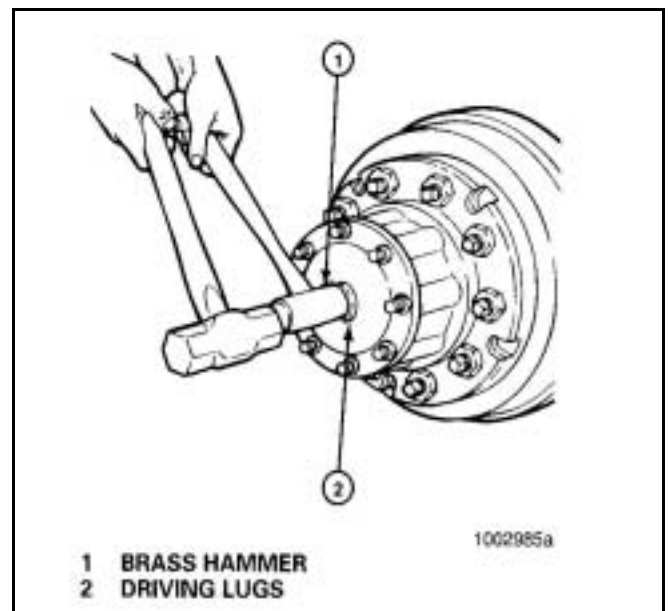

Figure 4
1. Hold a 1-1/2 inch diameter brass drift against the center of the axle shaft, inside the round driving lugs. **Figure 4.**